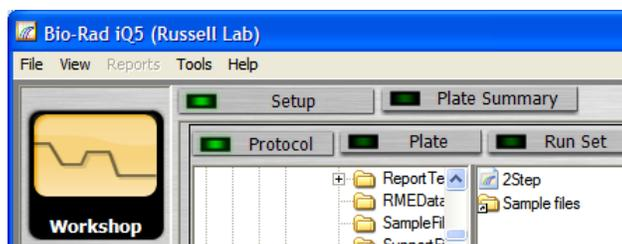

Fig. 8.13. User Name Displayed in the iQ5 Software Title Bar.
4. The current user can be determined by looking at title bar (in the top-right corner) of the software. The current user name will be displayed in parentheses next to the Bio-Rad iQ5 header (Figure 8.13).